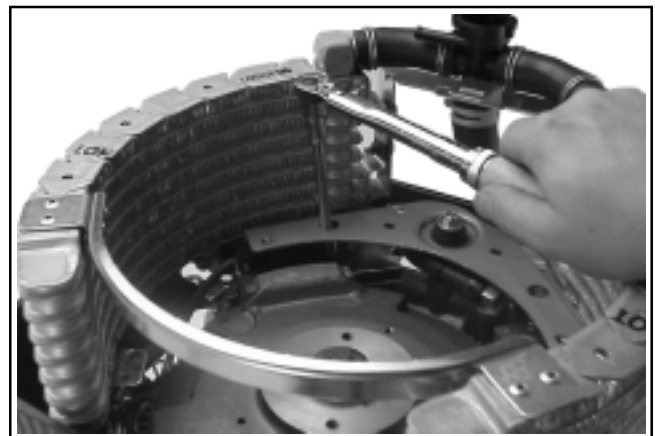

Figure 11-87. Setting Ignition Module Air Gap.
4. Insert a **0.36 mm (0.014 in.)** flat feeler gauge between the magnet and ignition module. See Figure 11-87. Loosen the hex. flange screws enough to allow the magnet to pull the module against the feeler gauge.